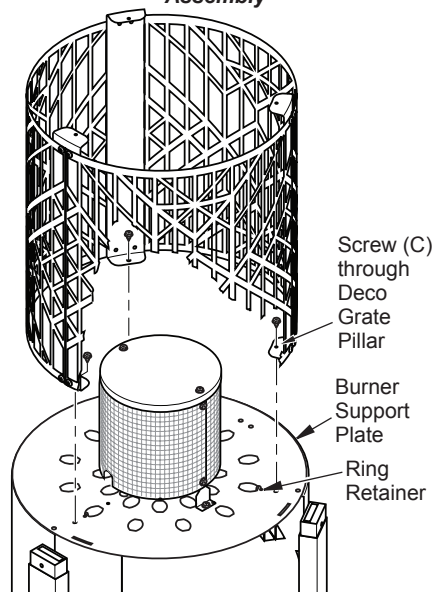

Figure 7 - Attaching Grate Assembly to Heater
13. Attach grate assembly to burner support plate using 3 screws, (C) one through bottom of each deco grate pillar (see Figure 7, page 6).
22. Place ring retainers ("S" hooks) through holes in burner support plate as shown in Figure 7, page 6.
Make sure to route chain through handle on tank and NOT around tank valve. Chain must not interfere with valve. Attach hooks on both ends of chains to ring retainers installed on burner support plate. See Figure 7, page 6.